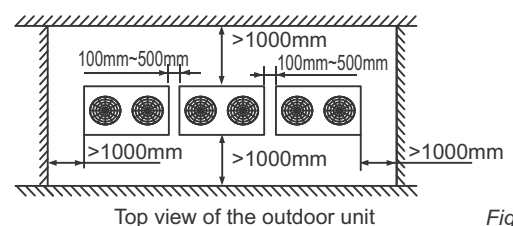

Fig.4-12
- When installing the unit, leave a space for maintenance shown in Fig.4-12. Install the power supply at the side of the outdoor unit. For installation procedure, see the power supply device Installation manual.